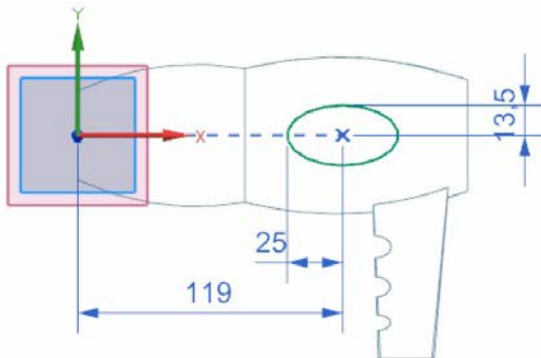

Figure 11-110 Sketch to be created
6. Next, invoke the Sketch in Task environment by using the newly created plane as the sketching plane and create a sketch, as shown in Figure 11-110. Next, exit the Sketch in Task environment.